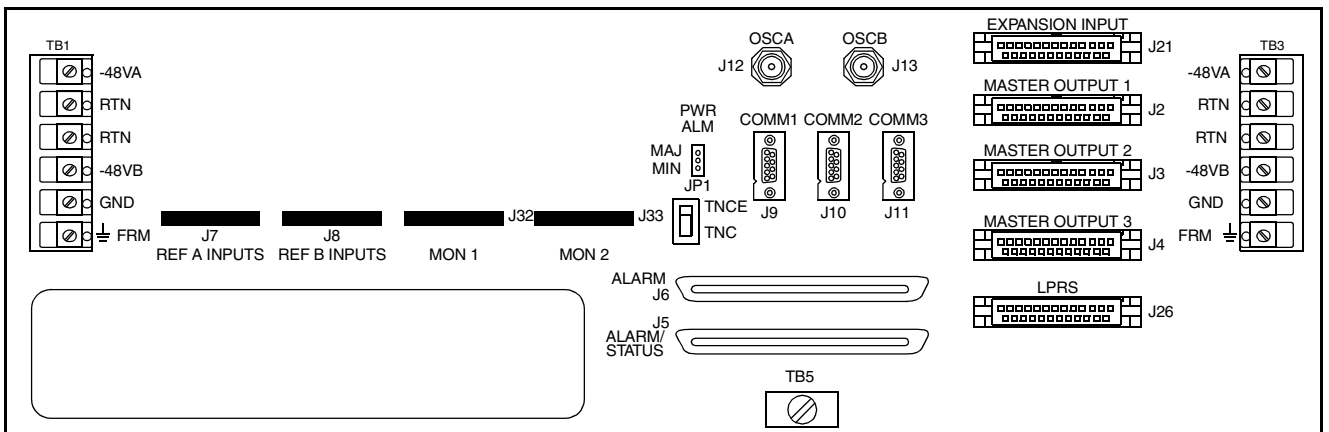

Figure 5. Common Equipment Panel
2.14 The TNCE/TNC switch (SW1) on the CEP (Figure 5) selects the clock operation for the shelf.
2.16 The REF INPUTS A and REF INPUTS B connectors on the CEP (Figure 5) are for references input modules. These modules carry reference input signals for the clock input cards in the MR A and MR B slots. The MON1 and MON2 connectors are used for the PSM/C modules. These modules carry signals for PSM/C cards installed in the MON1 and MON2 slots. To install a module on the CEP: